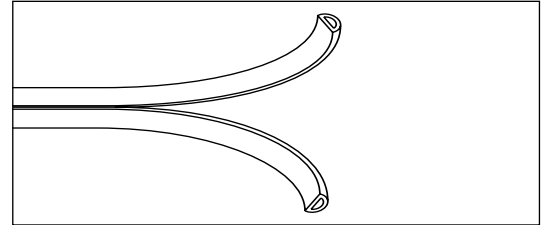

FIGURE 2. Carefully separate seal strip.
- a. Carefully separate (**NOTE: PULL APART - DO NOT CUT**) seal strip. (Fig. 2)